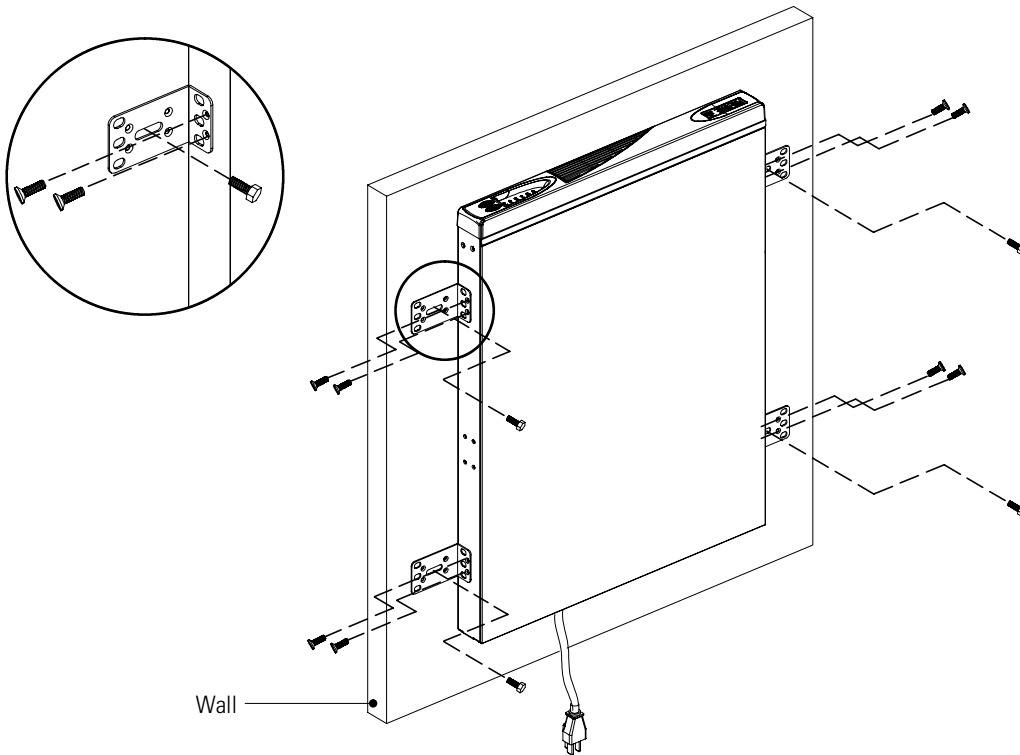

Figure 10. Mounting the UPS to a Wall
2. Attach four mounting brackets to the UPS as shown Figure 10. Secure the short end of the mounting bracket to the UPS using two of the supplied M3 × 6 screws.